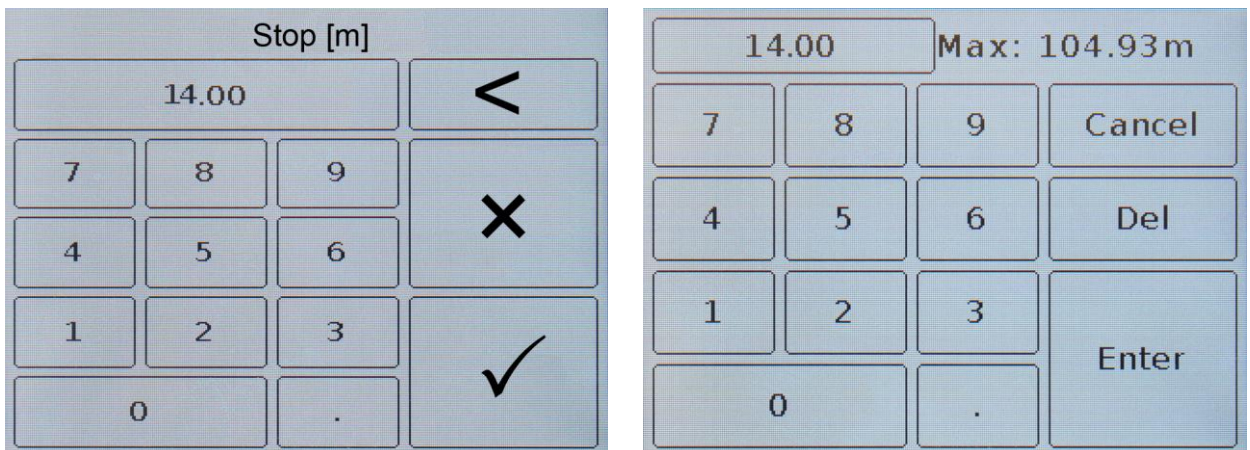

Figure 10.12 – Entering the distance displayed on the horizontal scale in devices ARINST VR 1-6200 and ARINST VR 23-6200
10.7.7. Enter the speed factor value, time or distance value that determines the length of the horizontal plot scale (figure 10.12.).
In our example, in figure 10.12, we enter the length of the horizontal scale of the plot 14 meters.